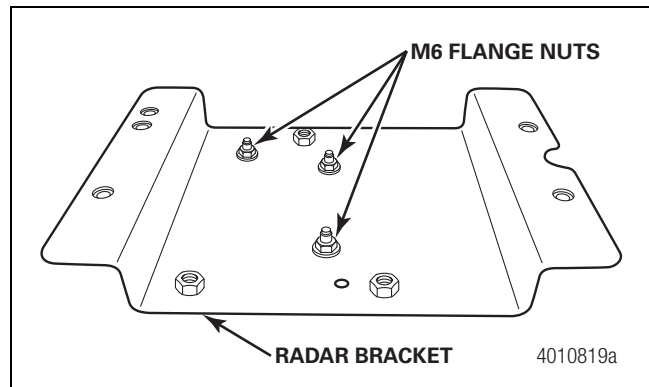

Figure 3
1. Place the radar in position on the bracket. Install the M6 flange nuts provided in the kit and tighten to 61-75 in-lb (6.9-8.4 N•m). No movement should occur between the bracket and the radar sensor after the sensor has been correctly installed on the mounting bracket. Figure 3.